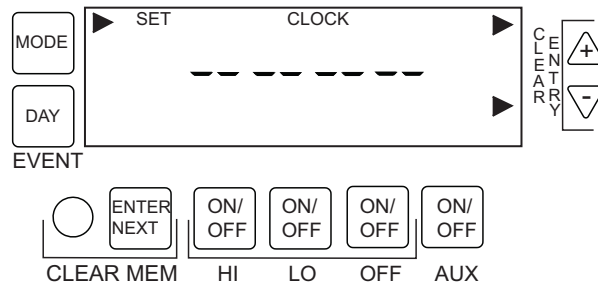

Figure 5 Setting the clock
5. Press + or - to scroll to the desired two-digit year (ex: 12 for the year 2012) and press **MODE** to save. The screen displays **SET CLOCK**. (See Figure 5).